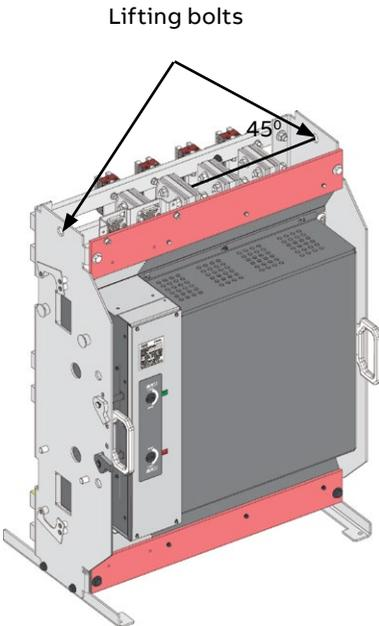

Fig. 9.3 ATS lifting.
3. ABB Zenith Bypass Isolation Automatic Transfer Switches have the provisions for lifting through lifting holes as shown in Fig. 9.3.
5. While lifting the unit using lifting chains, it is recommended to maintain a 45° angle as shown in Fig. 9.3.